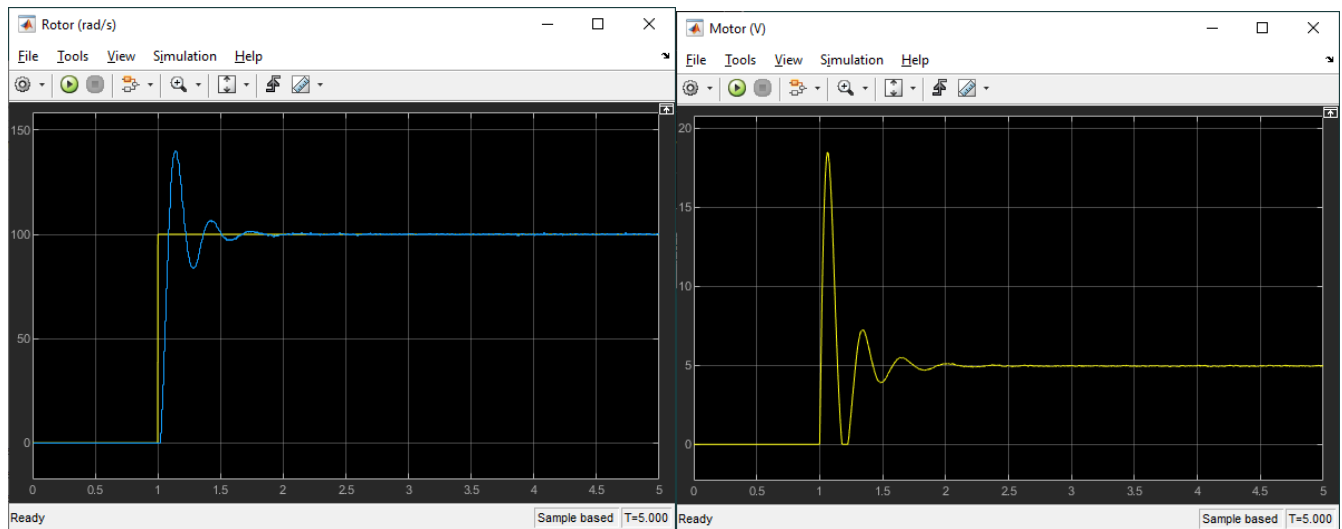

Figure 4 – Sample rotor PI speed control response on Aero 2 using $k_p=0.1$ and $k_i=5$
5. The response using the default PI gains $k_p = 0.1 \text{ V}/(\text{rad/s})$ and $k_i = 5 \text{ V}/\text{rad}$ is shown in Figure 4. Note that the response with the designed PI gains will be different.